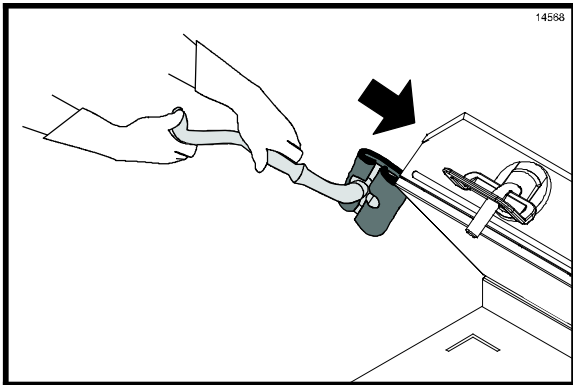

Figure 26
17. Apply the grill cleaner to the outer edges of the platen. (See Figure 26.)